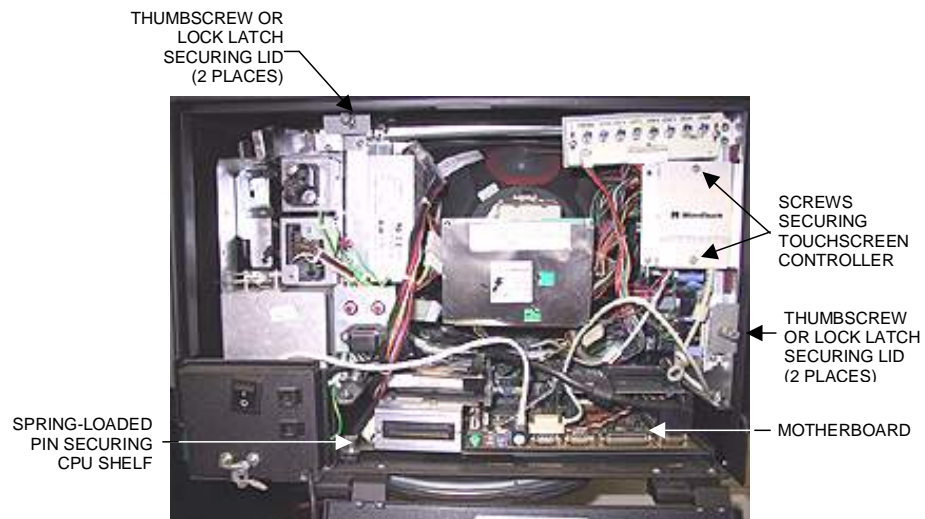

FIGURE 13 - MAXX SELECT/SLIM MAXX - CPU SECTION
3. There are two lock latches or thumb screws inside the rear of the game. See Figure 13. Remove the thumb screws or undo the latches.
6. Lift the spring loaded pin and slide the CPU shelf (see Figure 13) into its service position.
14. Remove the 2 screws securing the touchscreen controller. See Figure 13.
49. Replace the lid on the game securing it with the thumbscrews or lock latches (see Figure 13).